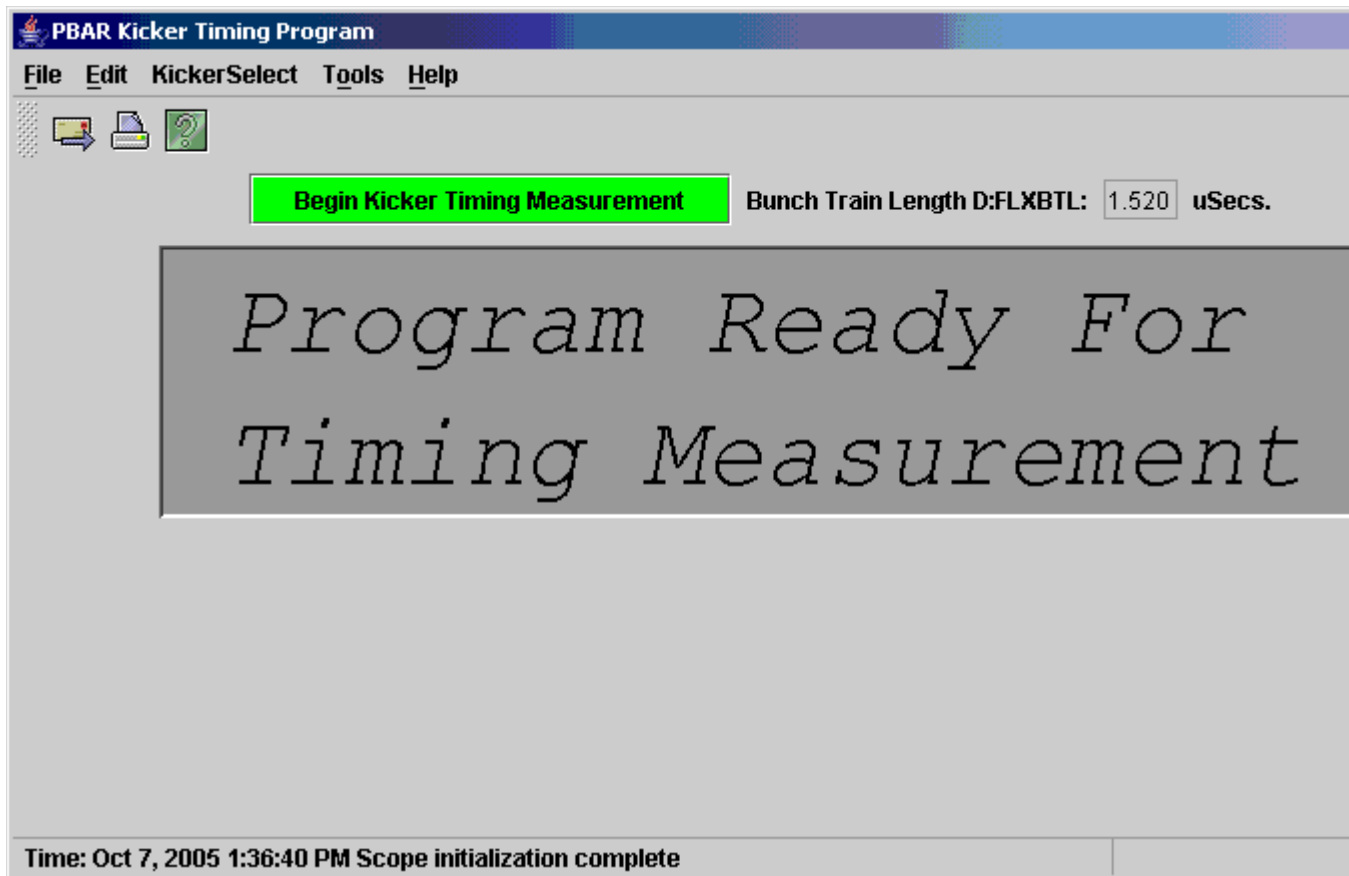

Figure 10: Java Pbar Kicker Timing Application.
1. The Pbar Kicker Timing Java application (See Figure 10) can be started by clicking on the following link: <http://www-bd.fnal.gov/appix/start?p=40000142&n=35000508>. The application can also be started from the Java Index. Click on "Launch in Application Browser." The Application Index window appears. Open the P * Pbar folder and double click on "Pbar Kicker Timing."